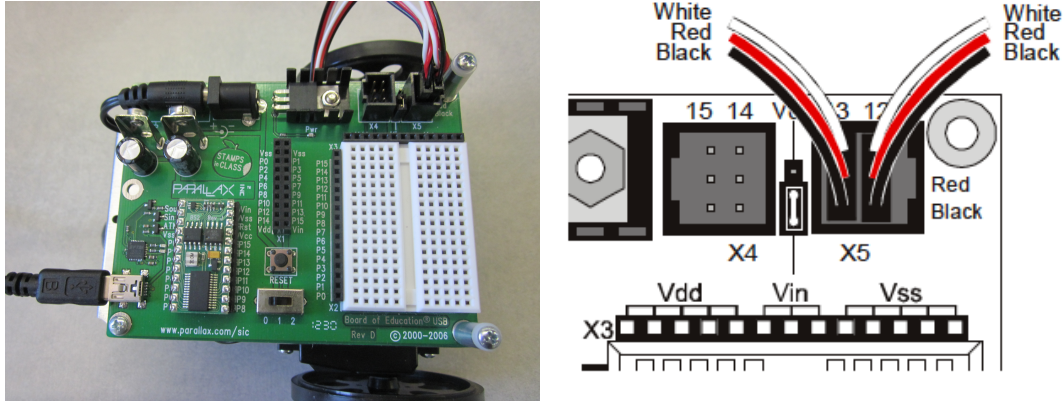

Figure 7: Board of Education with servo and battery pack connected (left), and close up of servo connection (right).
2. Connect the servos to the board as shown in Figure 7. There is a number written on the board right above where you connected the servos. The numbers should be 12 and 13. Take special care to ensure that you have the wires oriented correctly (white wire closest to the top), otherwise the servo will not work.